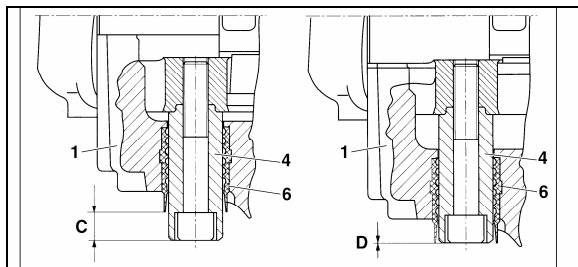

FIGURE 36: BRAKE PAD CHECK
Brake pads have to be checked on a regular basis depending on the vehicle operation. The remaining thickness of the pads should never be less than 3/32 inch (2 mm). To check pad condition without removing the wheel, verify the position of guide bushing (6) relatively to guide sleeve (4) (Fig. 36). When guide sleeve is in alignment with guide bushing, brake pad thickness must be checked more precisely with wheel removed. When replacing the brake pads, all four pads on an axle have to be changed at the same time. There is no inner or outer pad, since all pads are the same. Worn pads should be replaced in the same position.